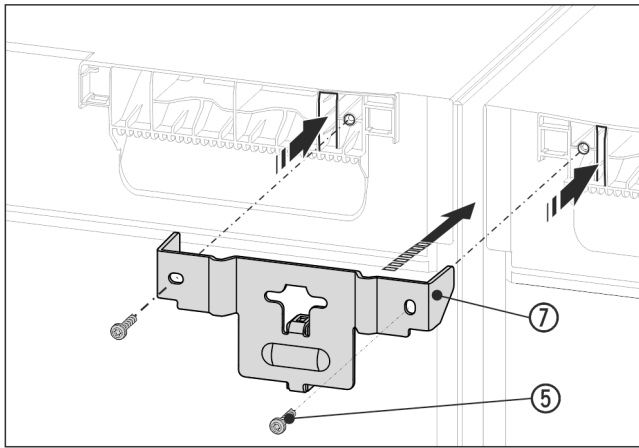

Fig. 16 Example illustration
- ▶ Slide the bracket Fig. 16 (7) with the spacer between the appliances and onto the appliance ceiling with the lugs. Tighten with 2 screws Fig. 16 (5).